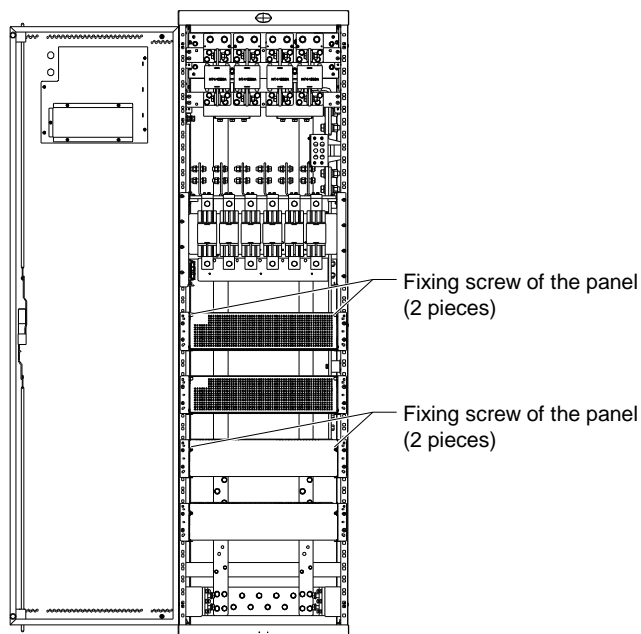

Figure 3-13 Fixing screws of the panel
4. Loosen the fixing screws of the HOD panel and the LOD panel, as shown in Figure 3-13. Open the panels.